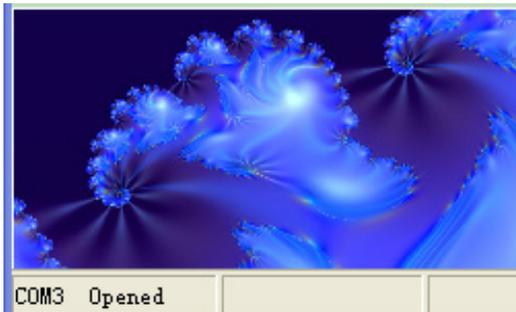

Fig.20
- Open the control software, click the LOGO picture zone at the lower left corner, it can link to the website as the user designated. See Fig.20.